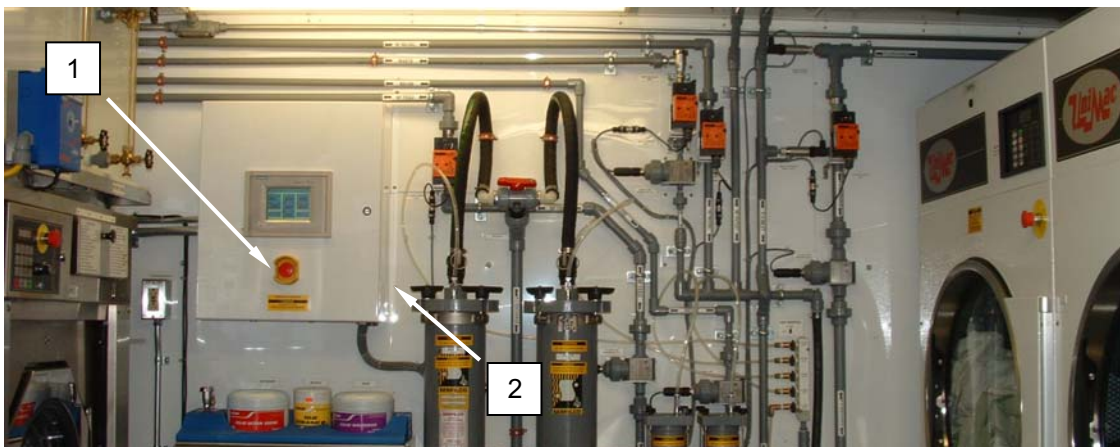

Figure 16. CBL Shut Down Procedure during NBC Imminent or Actual Attack.
1. Push emergency stop button (**Figure 16, Item 1**) on PLC control box (**Figure 16, Item 2**).